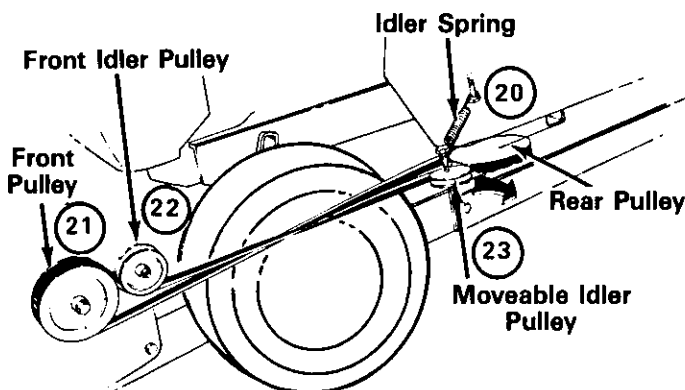

FIGURE 16
18. Place new belt around front pulley. See figure 16.
Belt must be assembled as shown in figure 16. Top of belt goes over rear pulley and then twist belt to the right. The bottom of the belt goes to the left. If the belt is assembled incorrectly, the auger will run in reverse.